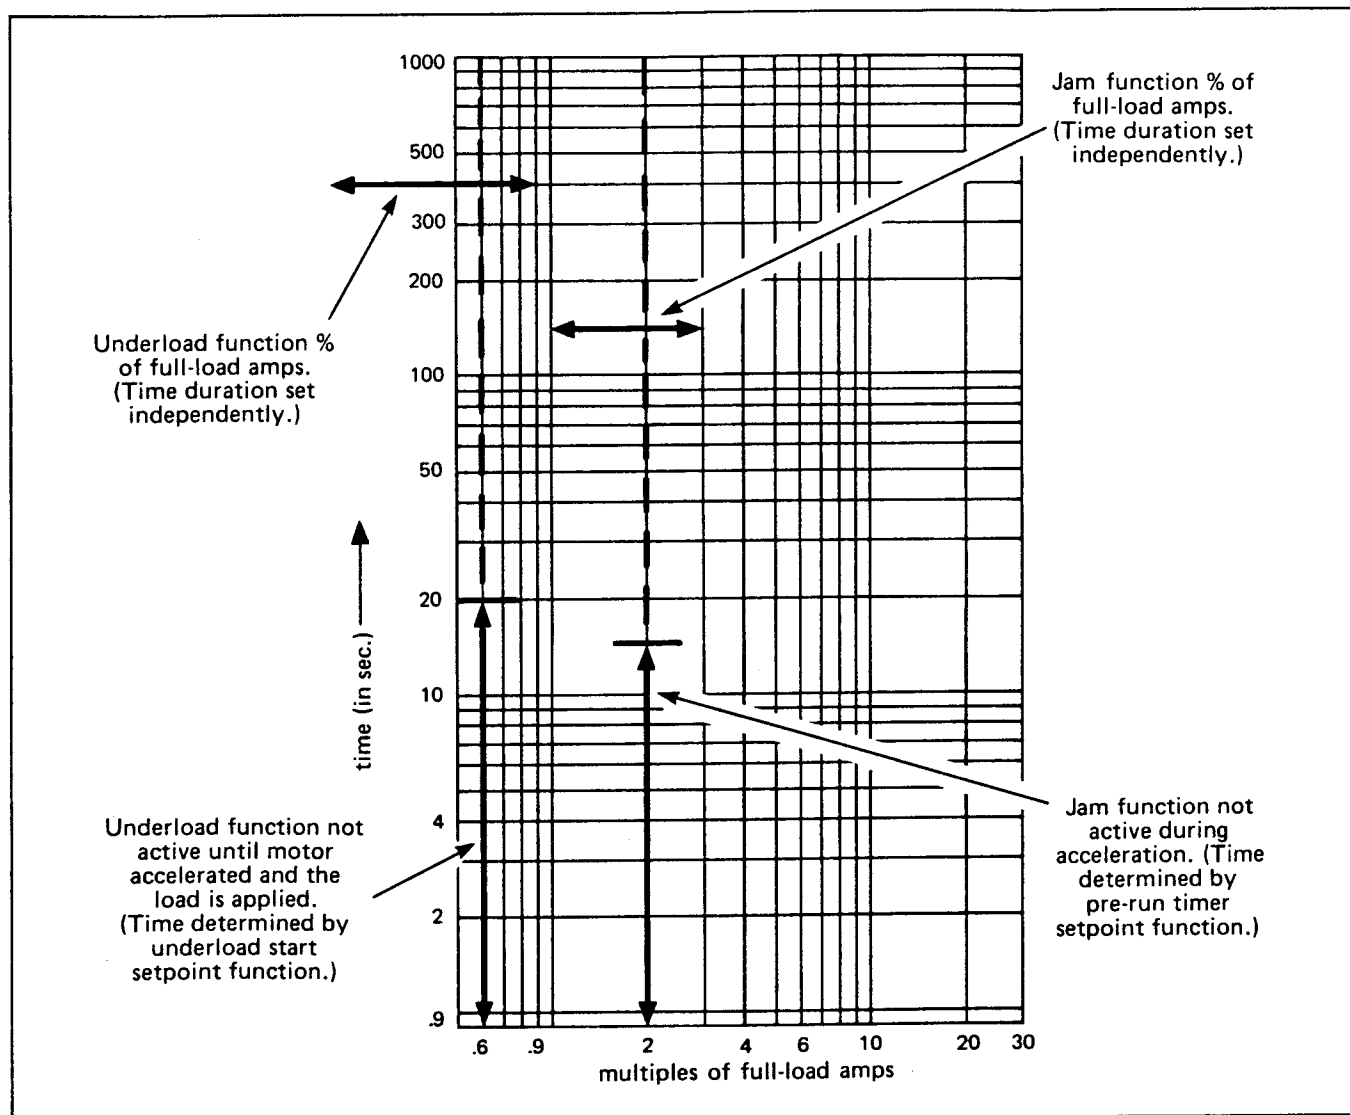

Figure 5.3 — Underload and Jam Protection
5.1.3.4 Underload Function — When the motor is running, a sudden reduction of current below a programmed value for a programmed time would indicate a malfunction in the driven equipment, and an underload trip would be activated. (Refer to Figure 5.3.)
5.1.3.5 Jam Function — Once the motor is running, if an instantaneous current exceeds a programmed value for a programmed time, a trip will occur. (See Figure 5.3 where the jam setpoint is set for 200% of full-load current.) This protection is desirable with gear train and other mechanical type loads where a physical jam could cause damage. The jam function is not active during acceleration; this permits locked-rotor current during acceleration. The locked-out time function is programmed by the time set of the pre-run timer. If this function is not required, the jam function should be set at 1200%. This function is not required for motor protection but may be desirable to provide system protection.